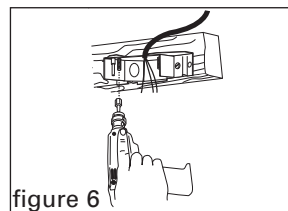

figure 6
3. Pull wire into box and remount the box to the bracket using the two nylon locknuts (figure 6). **Do not overtighten locknuts.**